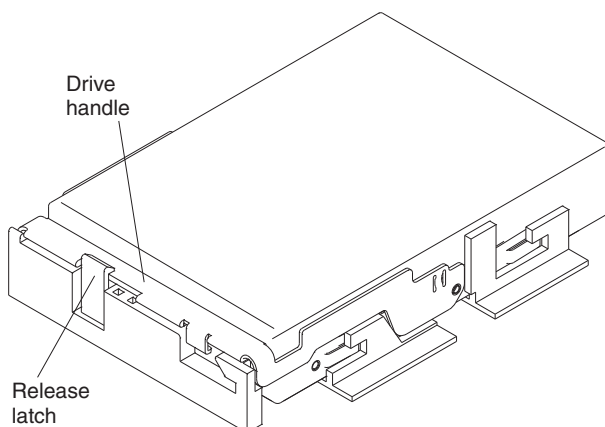

Figure 50. Locking the drive in place
c. Lower the drive straight down; then, rotate the drive handle down until the drive snaps into place under the drive release lever. See Figure 50 on page 92